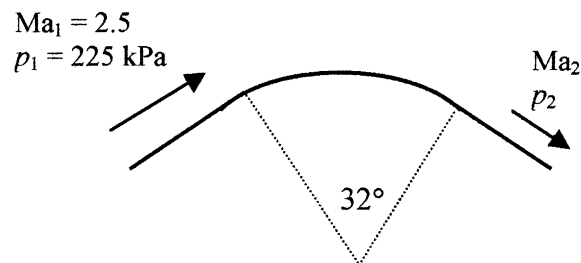

Fig. P9.148
**9.148** Air flows supersonically over a circular-arc surface as in Fig. P9.148. Estimate (a) the Mach number  $Ma_2$  and (b) the pressure  $p_2$  as the flow leaves the circular surface.